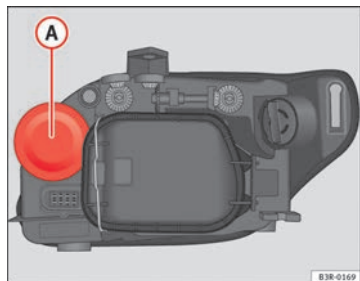

Fig. 209 Main beam headlights
- Pull up on the rubber cover (A) ⇒ Fig. 209 to remove it.